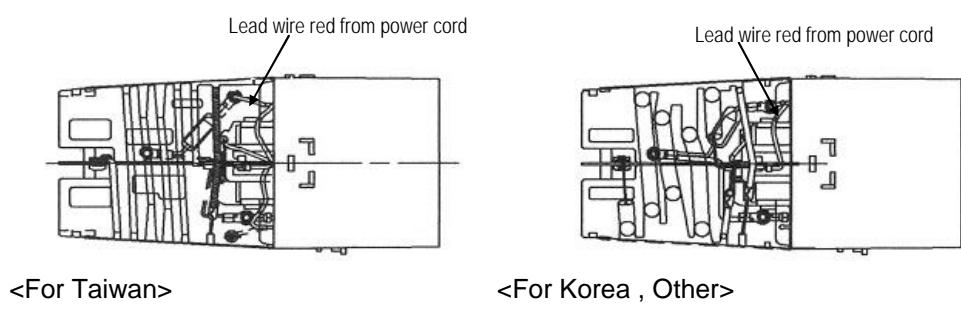

Figure 4
(3) Soldering lead wire Red from power cord into heater block assembly as shown in Figure 4.